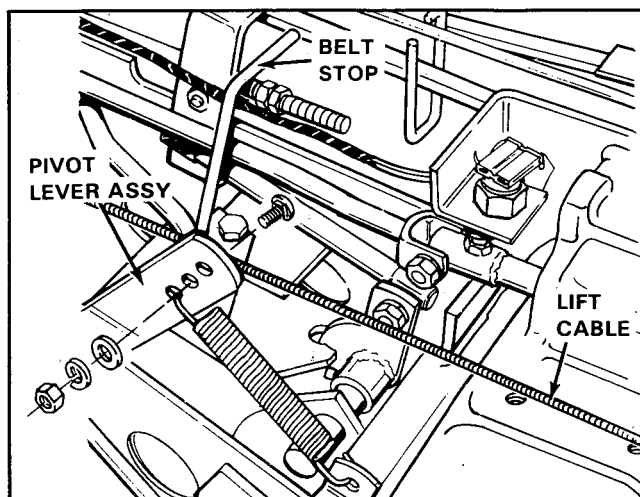

Figure 6
11. On six-speed and semi-automatic units, install the belt stop on the pivot lever assembly as shown in figure 6. With the clutch-brake pedal disengaged, the belt stop should be pointing straight up. Install the belt stop as shown in figure 6 with the 1/4-20 x 3/4 inch carriage bolt, washer, lockwasher, and hex nut provided.